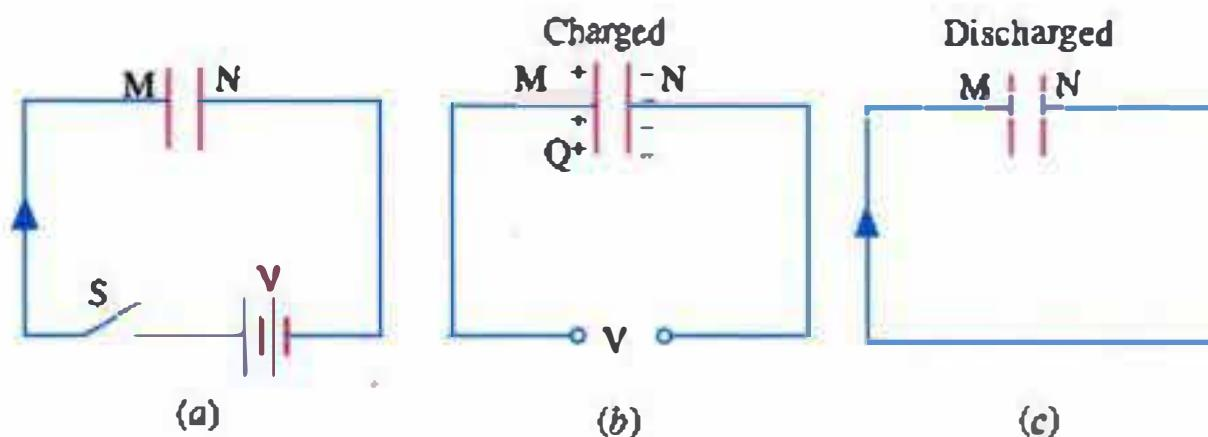

Fig. 5.24
When switch  $S$  in Fig. 5.24 (a) is closed, the capacitor gets connected across the battery. There is momentary flow of electrons from plate  $M$  to plate  $N$ . The positive terminal of the battery attracts and pulls away negatively-charged electrons from plate  $M$  which consequently becomes positive. Similarly, as these electrons collect on plate  $N$ , it becomes negative. Hence, a potential difference is established between the two plates  $M$  and  $N$ . This *transient* flow of electrons from one plate to another through the connecting wires gives rise to charging current which establishes positive charge of  $+Q$  coulomb on the plate  $M$ . The strength of this charging current is maximum in the beginning when the two plates are uncharged but it then decreases and finally ceases when p.d. across the two plates becomes slowly and slowly *equal and opposite* to the battery emf i.e.,  $V$  volts. The capacitor then becomes fully charged as shown in Fig. 5.24 (b).
2. as p.d. between the plates is increased, the dielectric medium comes under increasing stress. If this p.d. is increased, the stress in the dielectric increases till it can no longer bear it. At that stage, electrical breakdown occurs accompanied by a spark between the two capacitor plates. The maximum voltage per metre thickness which a medium can withstand without a rupture or breakdown is called its *dielectric strength*. Usually, it is given in kV/mm instead of the basic unit V/m. If the two leads of a charged capacitor are connected together as shown in Fig. 5.24 (c), the p.d. between the two plates is equalized and the capacitor becomes discharged;